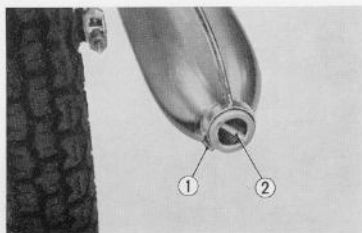

Fig. 5.33 Removing diffuser pipe
- a. Remove the diffuser pipe locking bolt ① and pull out the diffuser pipe ② (Fig. 5.33) (diffuser pipe not removable on USA export)